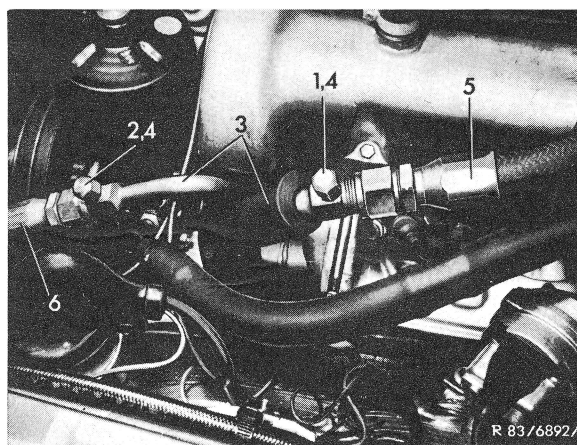

Figure 2
1 Remove plugs (4) and caps (5) of both service valves (Fig. 2).
2 With valves A and B on gauge set closed, connect hoses (5 and 9) to connections of service valves. On service valves with Schrader valve make sure that the offset end of the hose lines with pressure pin is connected to the connection of the two service valves (refer to Job No. 83.0-840, Fig. 2).